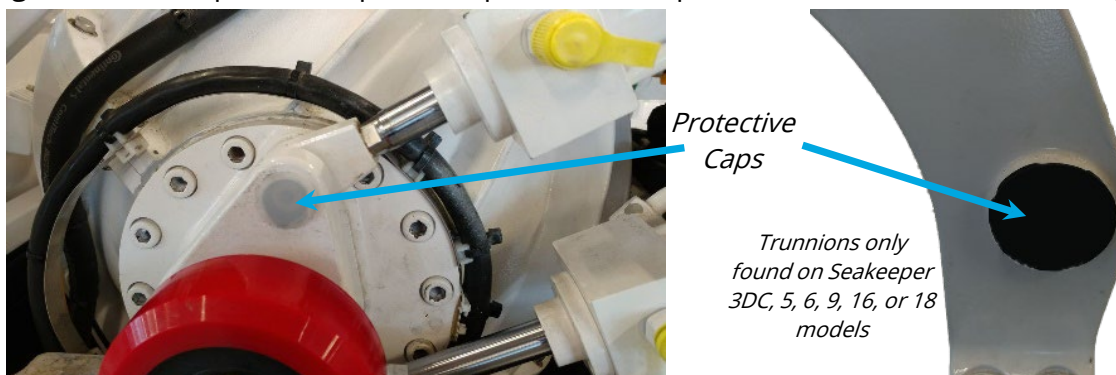

Figure 9: Protective cap locations
- ii **REMOVE** four hex head screws of mechanical bump stop at front of foundation (Use 17 mm wrench for Seakeeper 6/5; use 9/16-in. wrench for Seakeeper 5/3DC (EM), (See SB-90638 for Seakeeper 6/5).
- g. **REMOVE** protective plastic caps of rod-end pins and outer trunnions. (See fig. 9)